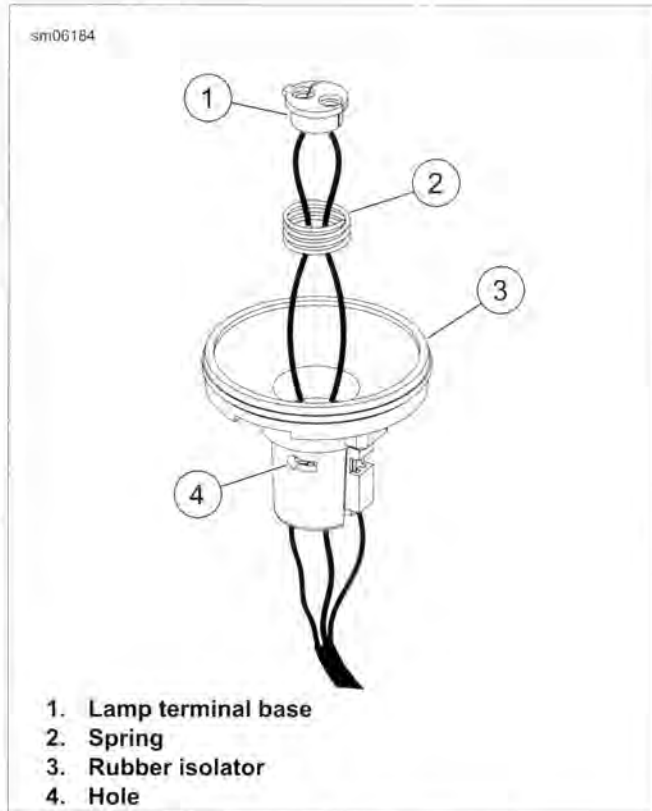

Figure 7-51. Reflector Assembly
6. See Figure 7-51. Insert a right angle pick or a 7/64 in hex key through hole (4) and pull reflector from lamp.
7. Remove rubber isolator (3) from lamp if still installed.